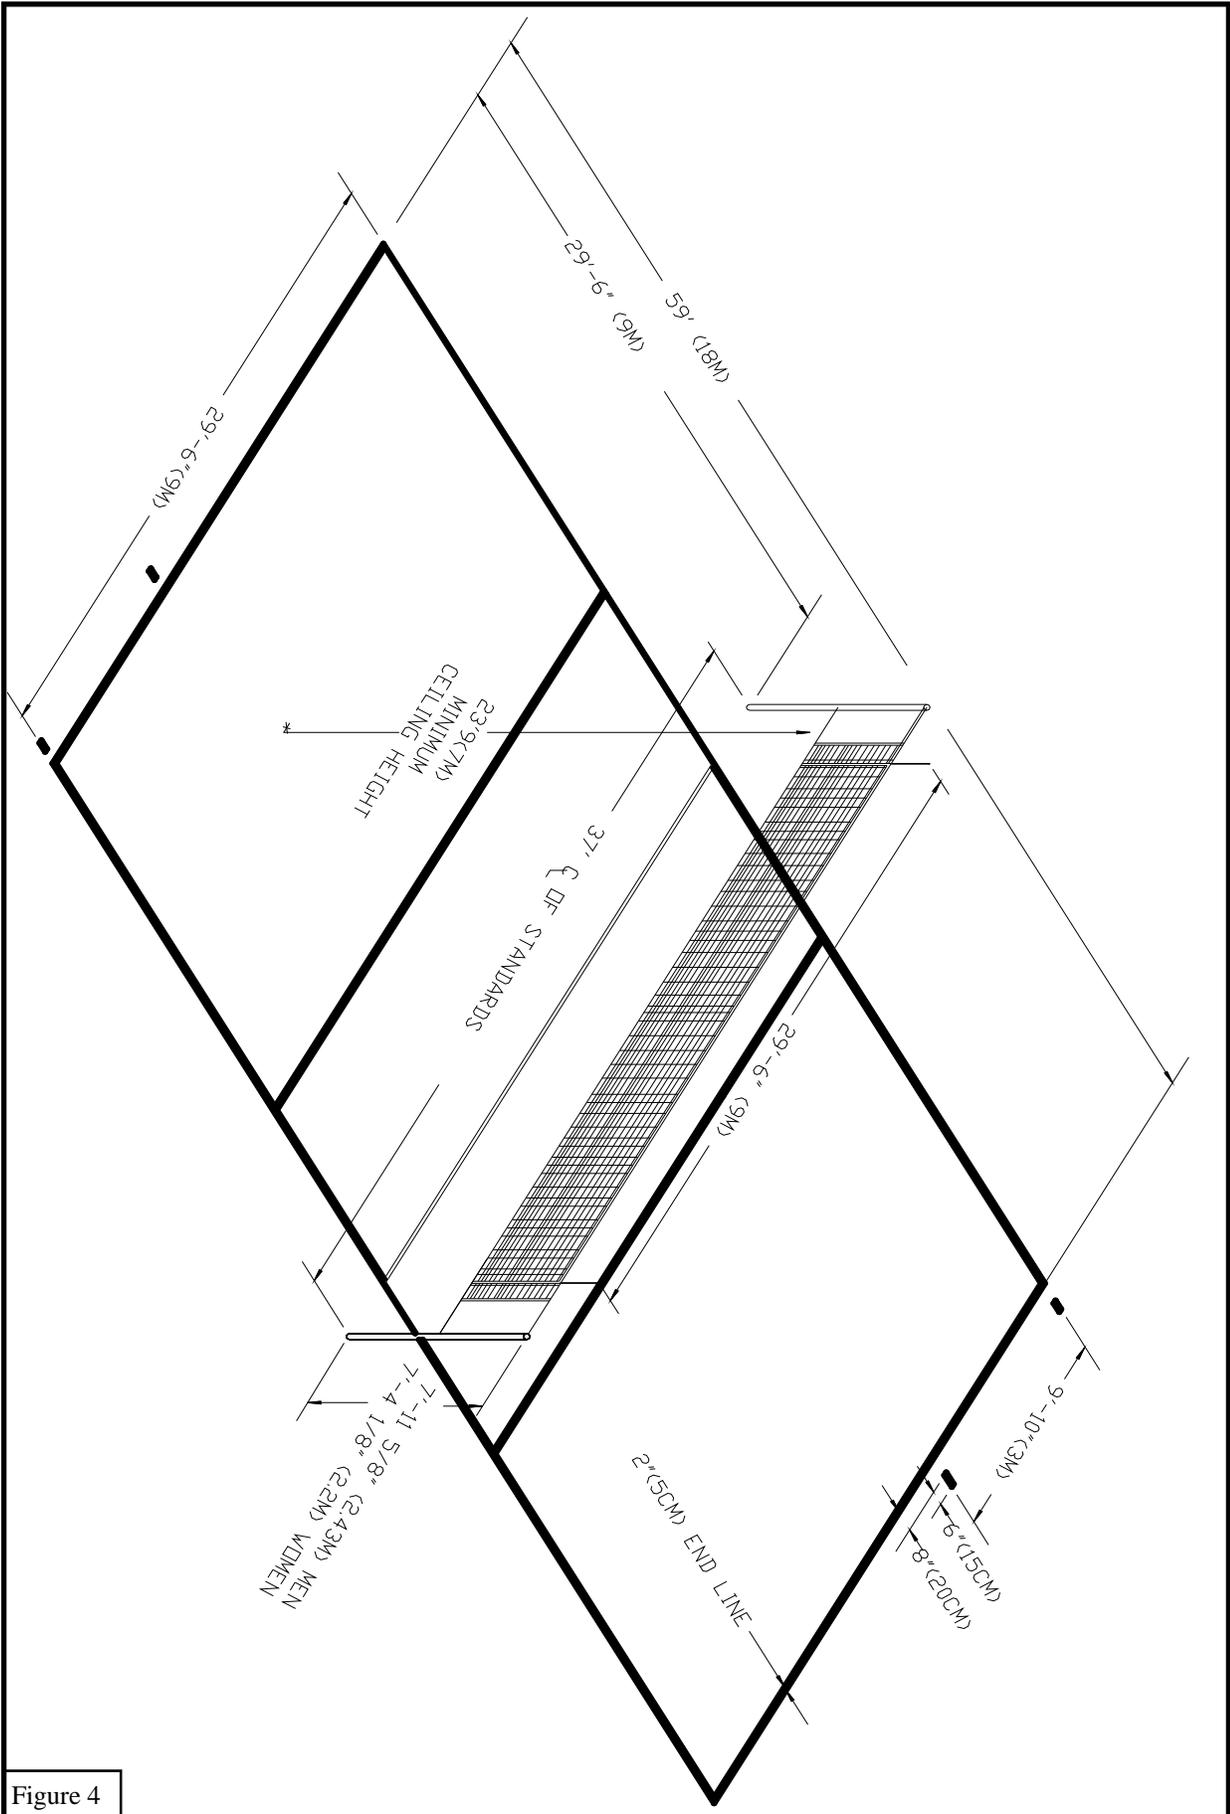

Figure 4
2. Determine locations for floor sockets, volleyball sockets should be positioned 37' center to center. Tennis sockets should be 42' 3" center to center. See Figure 4.